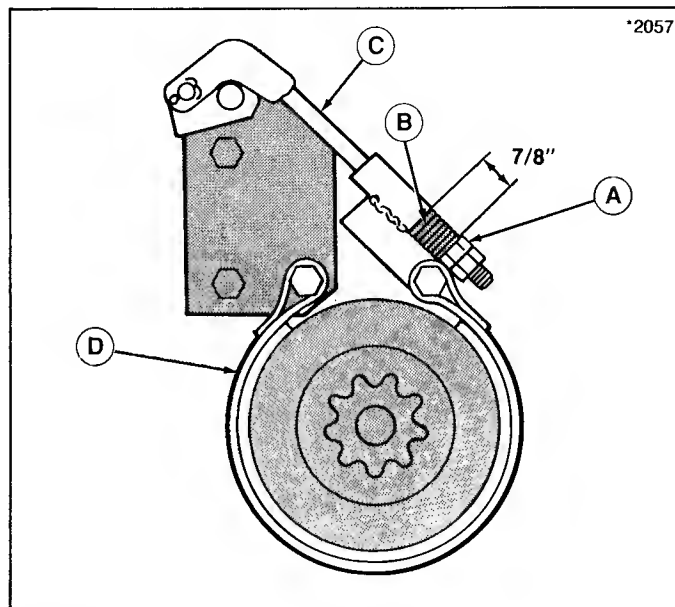

Figure 29.
To adjust, engage the brake and turn the adjustment nut (A, figure 29) so that the compressed spring length (B) is 7/8".